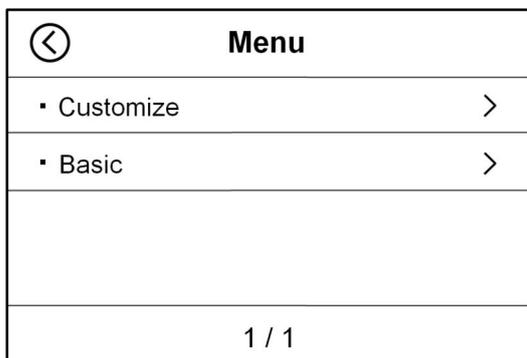
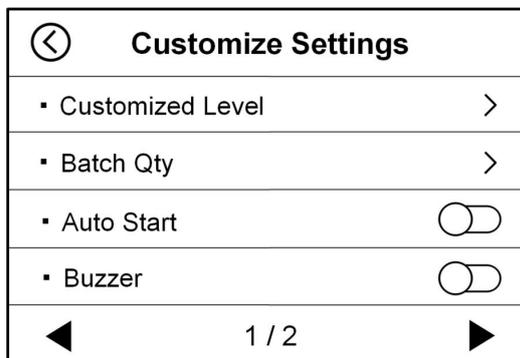

Figure 39
Figure 40
1) Press the “” key to enter the main interface of USER MENU, as shown in Figure 39 below, Press “**Customize**” to enter into Customize Settings, as Figure 40.